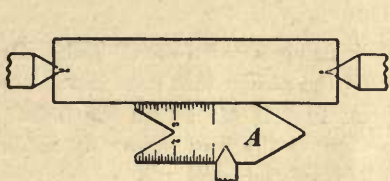

Fig. 3.
**38. Centre Gauge.** — In Fig. 3, *A* represents a centre gauge and gauge for grinding and setting a V-thread tool; the angles of this gauge are  $60^\circ$ . Care should be taken to grind the tool to fit the gauge; the tool should be given top rake enough to make it cut clean, and only enough bottom rake to clear well and not rub against the thread.
**How to Set a V-Thread Tool.** — Fig. 3 represents a piece of work held between the centres of a lathe. Applying the gauge as shown in the figure, the V tool can be set at right angles to the work and then fastened in place.